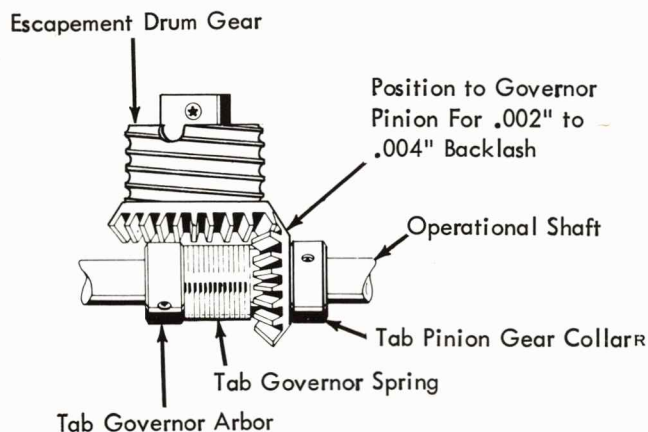

FIGURE 109. Tab Governor Pinion
2. Tab Governor Pinion - Adjust the tab governor pinion to have .002" to .004" backlash at the point of closest mesh with the escapement cord drum gear. Adjust the pinion by moving both the tab governor hub and collar located on each side of the pinion. The pinion should have a minimum of end play yet still rotate freely (Fig. 109).